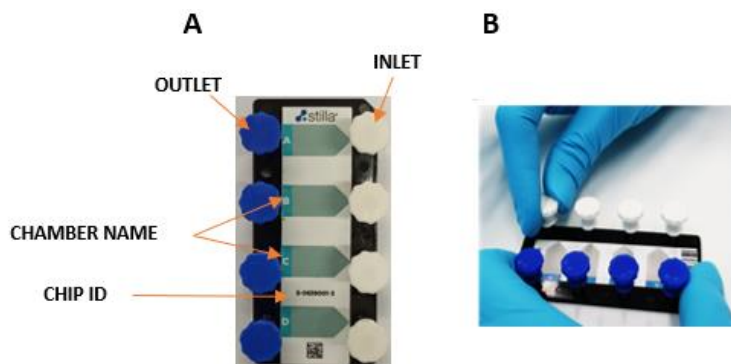

Figure 2: Disconnect the flat caps from the inlets (A) of the chips (B).
4) Disconnect the white flat inlet caps from the inlets of the Sapphire Chip by twisting a ¼ of a turn in any direction, the white flat inlet cap should become loose and easily come off (**Figure 2**). Then, discard the white flat inlet caps.